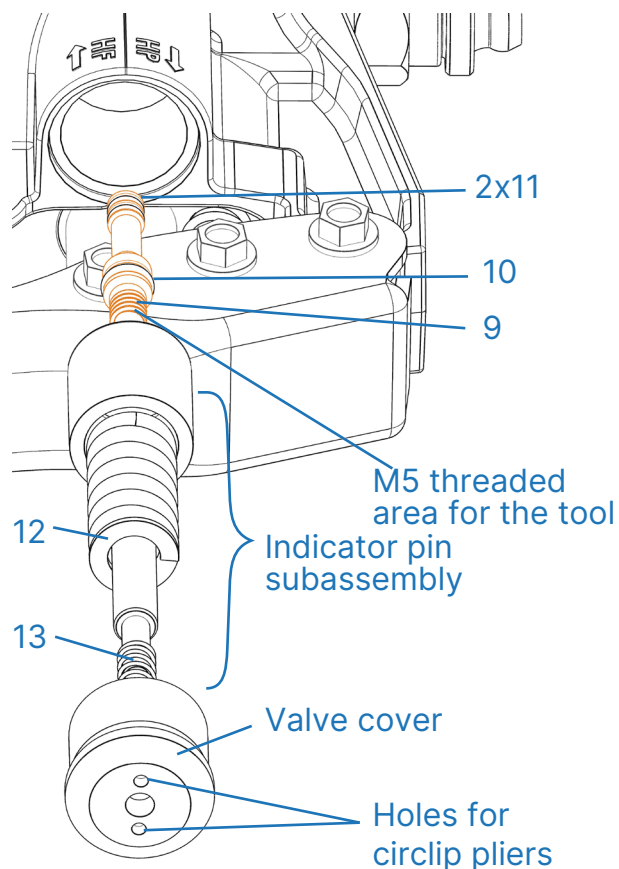

Figure 9
1. Use circlip pliers to turn the valve cover counterclockwise until it is detached from the gun body. (See Figure 9)
4. Replace the spool valve plunger (9) and O-rings as well as the springs (12,13)